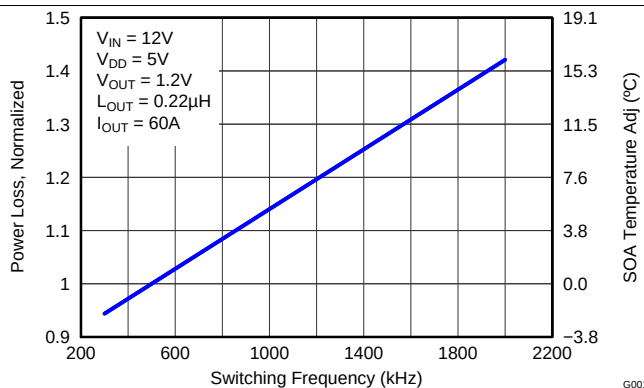

Figure 5. Normalized Power Loss vs Frequency
- Normalized Power Loss for switching frequency  $\approx 1.08$  (Figure 5)
- SOA adjustment for switching frequency  $\approx 3.2^{\circ}\text{C}$  (Figure 5)